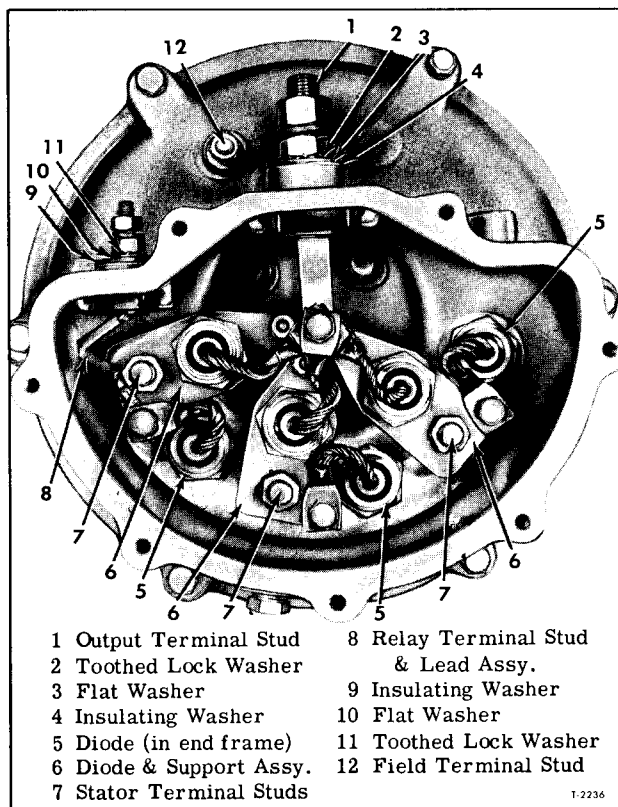

Figure 6—Diode End With Cover Removed
1. Remove seven bolts and lock washers attaching diode end cover to diode end frame (fig. 6).